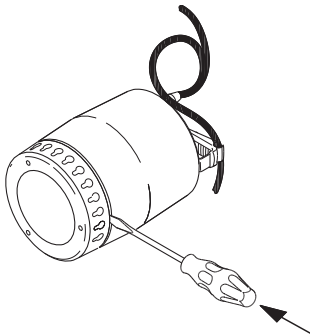

Fig. 10 How to remove the inlet strainer
- Press a screwdriver in between the pump sleeve and the strainer and press hard. Do the same in several places along the strainer until it is pried loose and can be removed. See fig. 10.